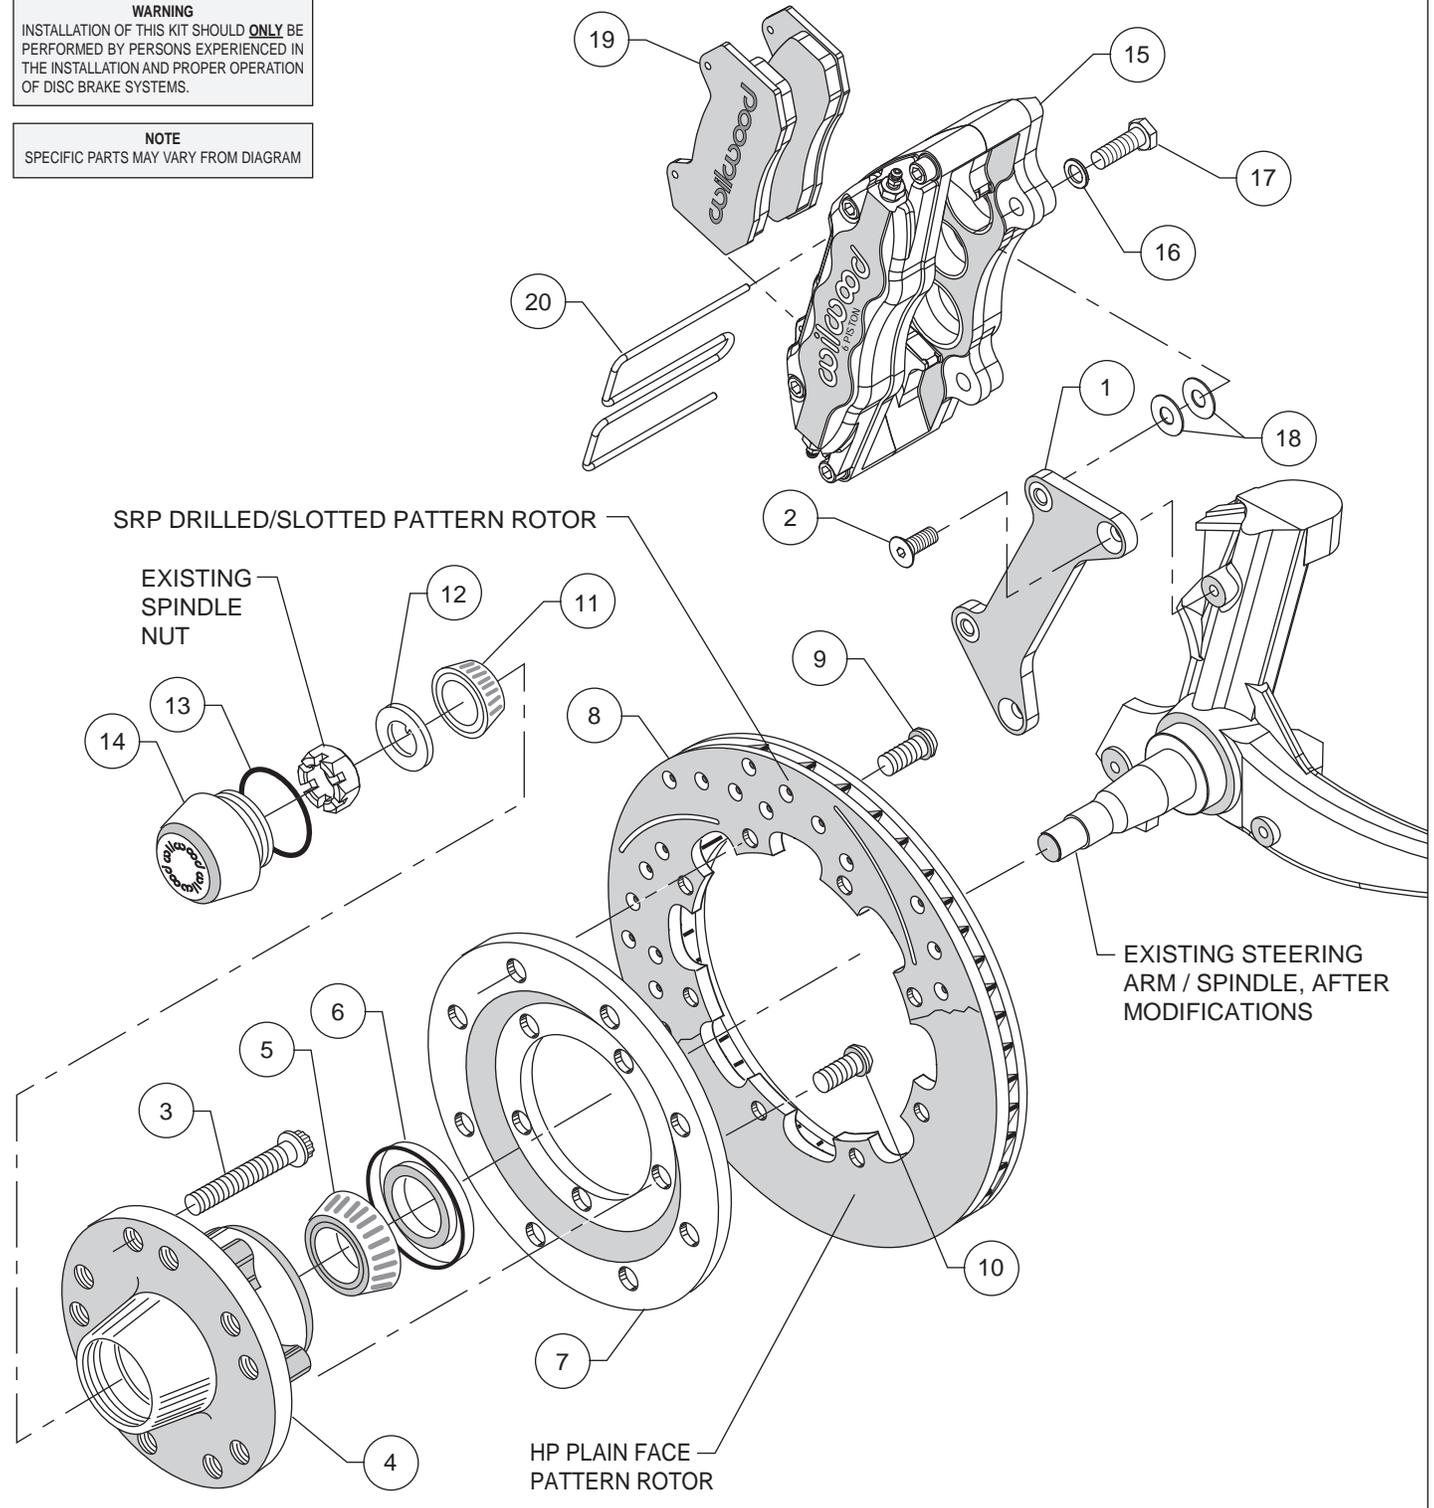
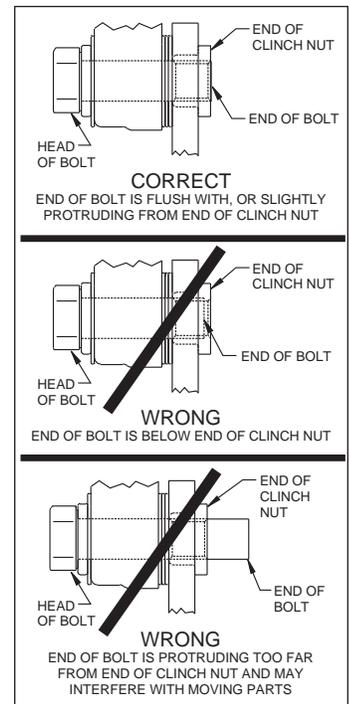

Figure 2. Typical Installation Configuration
Figure 4. Clinch Nut Engagement Diagram
Assembly Instructions (numbers in parenthesis refer to the parts list, and Figure 2): **CAUTION:** All mounting bolts must fully engage clinch nuts. Be sure to check that all bolts are either flush or protruding through flanged side of clinch nut after shimming, Figure 4.
- Orient the caliper mounting bracket (1) with the corresponding holes, to the face of the spindle as shown in Photo 1 and Figure 2. Attach using bolts (2), Photo 1 and Figure 2. Temporarily tighten the mounting bolts. Ensure that the flanged heads of the clinch nuts in the bracket are facing outboard, Photo 1. **NOTE:** The bracket must fit squarely against the mounting points on the spindle. Inspect for interference from casting irregularities, machining ridges, burrs, etc. Remove bolts one at a time, apply red *Loctite*® 271 to threads and torque to 40 ft-lbs.
- Orient the rotor (8) and the rotor adapter (7) as shown in Figure 2 and Photo 4. Attach the rotor to the adapter using bolts (9). Using an alternating sequence, apply red *Loctite*® 271 to the threads, and torque to 25 ft-lb.
- Mount the adapter/rotor assembly (7/8) to the hub (4) using bolts (10), as shown in Figure 2 and Photo 5. Using an alternating sequence, apply red *Loctite*® 271 to the threads, and torque to 55 ft-lb.
- Pack the small outer bearing cone (11) with high temperature disc brake bearing grease and install into hub (4). Slide the hub/rotor assembly onto the spindle. Secure using spindle washer (12) and OEM spindle nut, Photo 6. Adjust bearings per OEM specifications. Install saved OEM nut lock (if any) and a new cotter pin (not included).
- Screw dust cap (14) into hub (4), Photo 7. Friction created by the o-ring (13) on the dust cap keeps it from unscrewing. **NOTE:** The O.D. of the existing OEM spindle washer may be larger than the I.D. of the dust cap not allowing it to seat against the hub face. Therefore, use the spindle washer (12) supplied with the kit instead of the OEM washer.
- NOTE:** Please reference the caution statement at the beginning of the assembly instructions. This kit contains distinct right and left hand calipers that must be mounted in a specific direction, as described below. Mount the caliper (15) onto the caliper mounting bracket (1) using bolts (17) and washers (16), as shown in Figure 2. Initially place two .035" thick shims (18) on each bolt between the caliper and the bracket, Photo 8. Ensure that the caliper is mounted so the largest pistons are at the rotor exit end of the caliper, in relation to the direction of rotor rotation. Temporarily tighten the mounting bolts and view the rotor (8) through the top opening of the caliper. The rotor should be centered in the caliper, Photo 9. If not, adjust by adding or subtracting shims between the bracket and the caliper. Always use the same amount of shims on each of the two mounting bolts. **NOTE:** The end of each bolt must be flush with or slightly protruding from the head of the clinch nut, as shown in Figure 4. If necessary place spare shims between washer (16) and caliper mounting ear to achieve the proper clinch nut engagement. Once the caliper alignment and clinch nut engagement are correct, remove the bolts one at a time, apply red *Loctite*® 271 to bolt threads, and torque to 40 ft-lb.